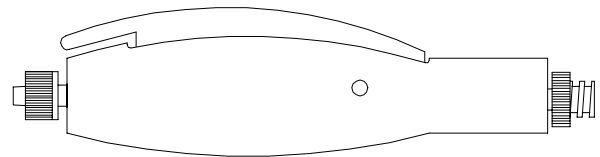

FIGURE 8
3. To replace Pinch Tube (Refer to figure 8).